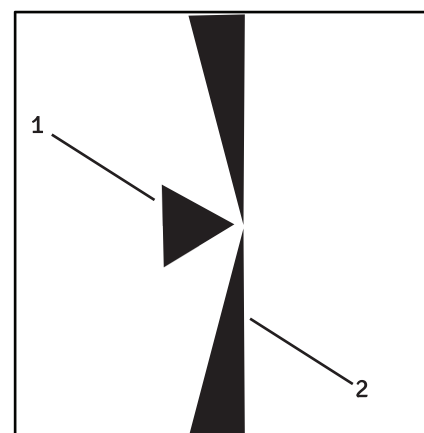

Fig. 30
To use Z-Axis attachment, Always Focus the microscope in such a way that index arrow (1) of the Z-Axis is in the middle of triangle (2) to use up & down movement range. Refer fig 30